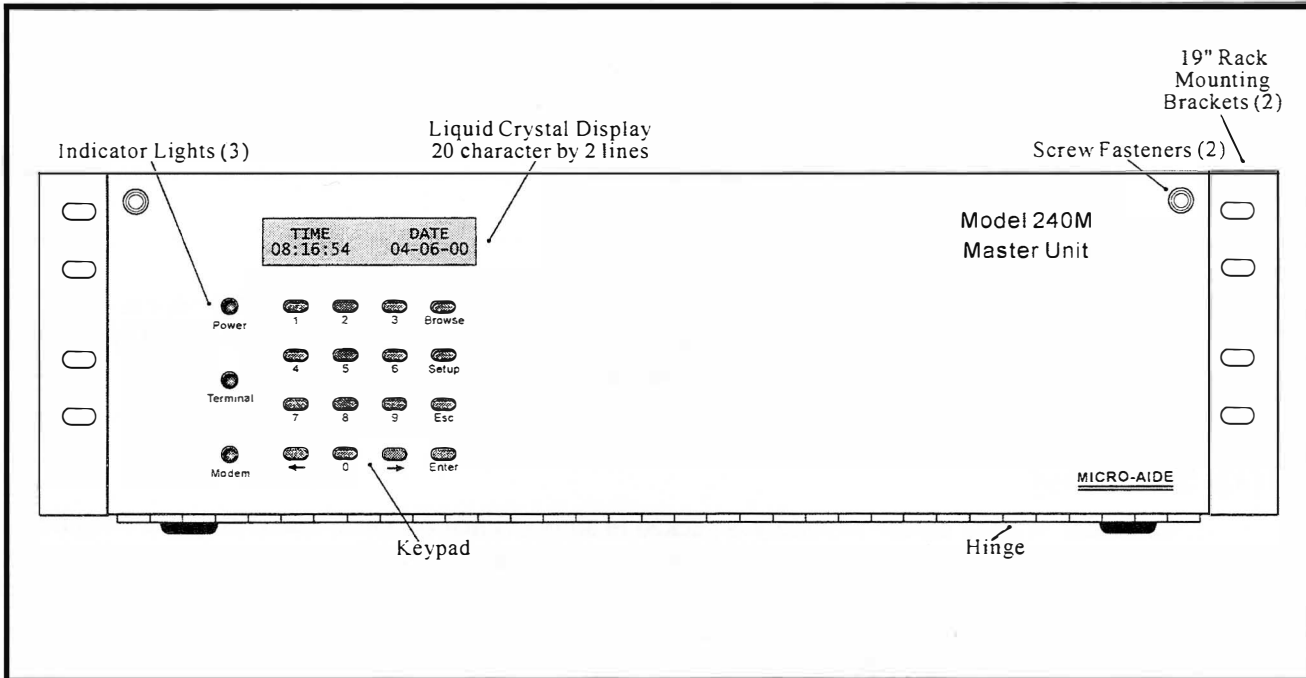

Figure 1
- Open the hinged, front cover of the Model 240M chassis by turning the two screw fasteners counter-clockwise. Refer to Figure 1.